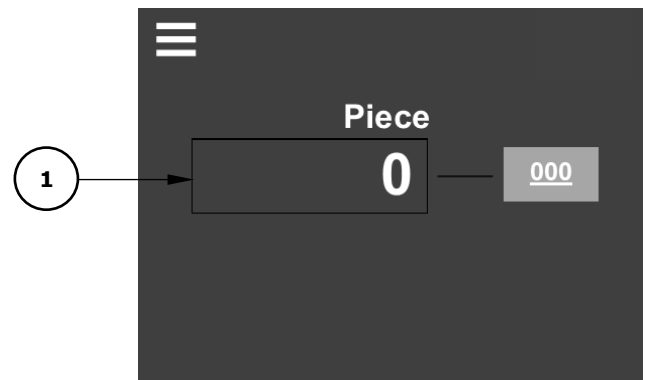

Figure 8.4.4
6. When the required quantity is reached, an information message appears on the display. See Figure 8.4.4.
1. Select field 1 by touching it. The piece count input screen appears. See Figure 8.4.4.